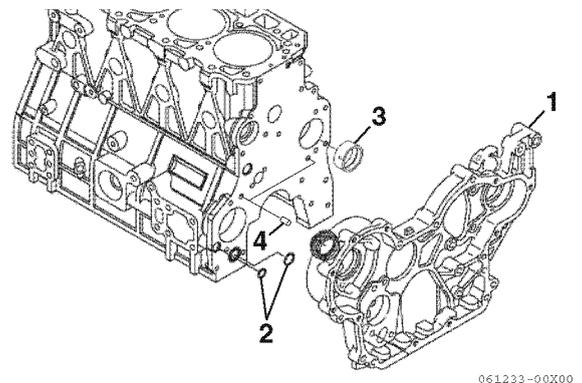
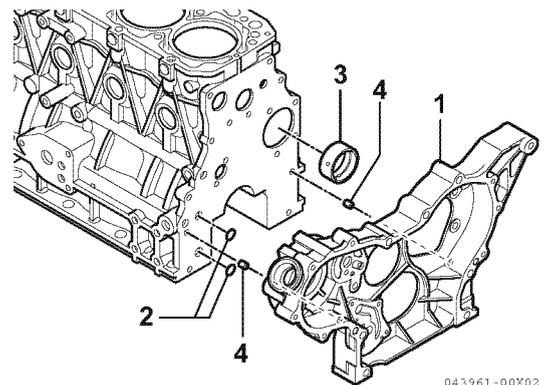

Figure 6-102
Figure 6-103
1. If removed, install a new camshaft bushing (3, **Figure 6-102** and **Figure 6-103**) using the appropriate service tool.
3. **4TNV98C, 4TNV98CT:** Install two new O-rings (P14 and P20) (2, **Figure 6-102**) and two pins (4, **Figure 6-102**) in the cylinder block.
4. **3TNV88C - 4TNV86CT:** Reinstall the dowels (4, **Figure 6-103**) and two new O-rings (2, **Figure 6-103**).
5. Reinstall the gear case (1, **Figure 6-102**) or front plate (1, **Figure 6-103**). Tighten the bolts to the specified torque.